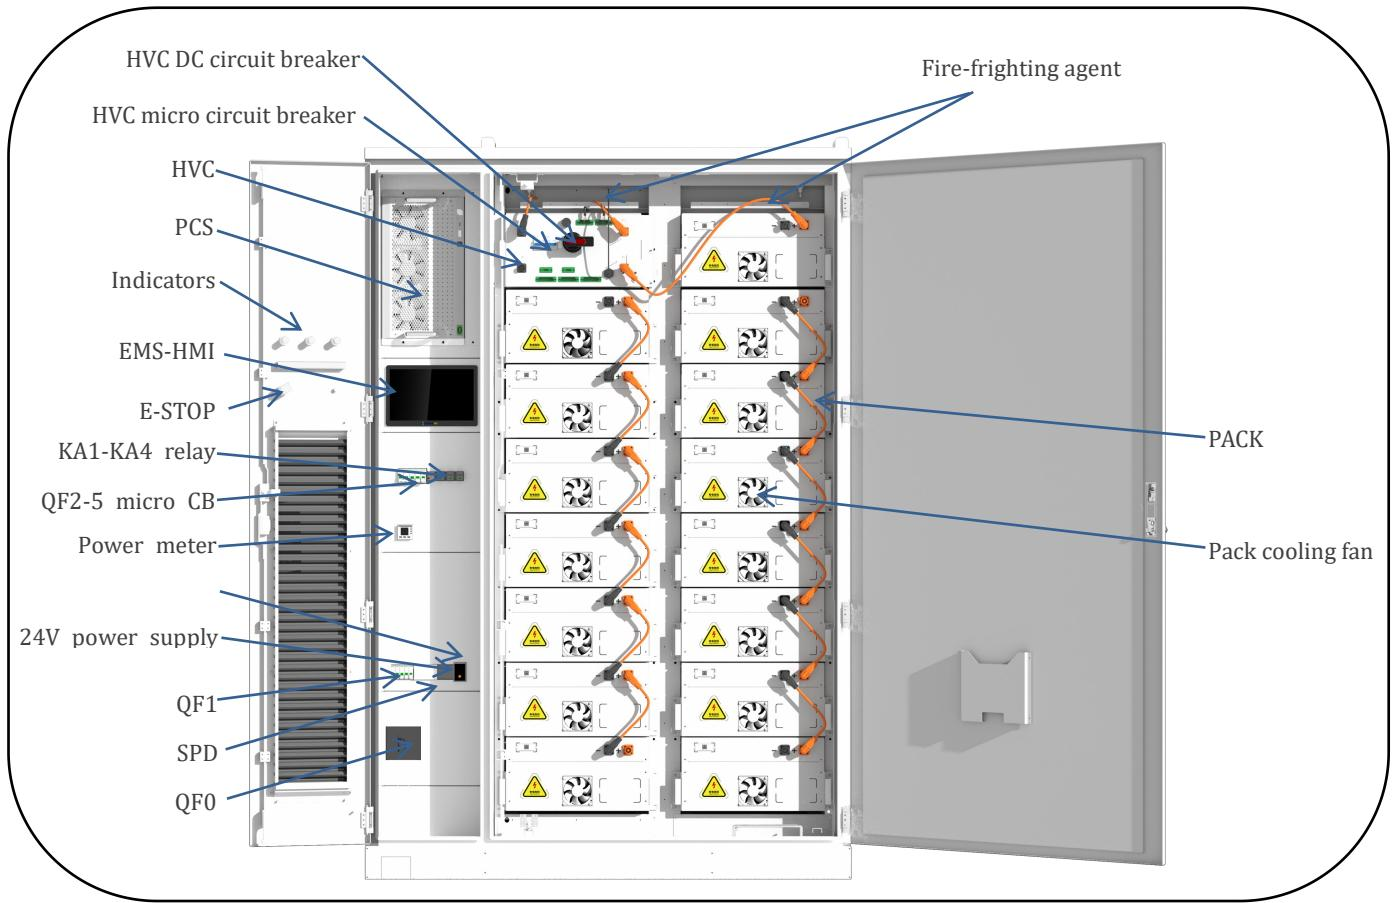

Figure 4-1 Distribution Switch Location Diagram
5) Component Inspection: Referencing Figure 4-1, all circuit breakers are in the open position; surge protector indicators are green.
- 2) Refer to Figure 4-1, close the QF0 DC molded case circuit breaker;
- 2) Refer to Figure 4-1, open QF1-QF5 microswitch.
- 2) Refer to Figure 4-1, break the QF1-QF5 switch of the system, break the DC switch of the high voltage box and the micro-break of the high pressure box.